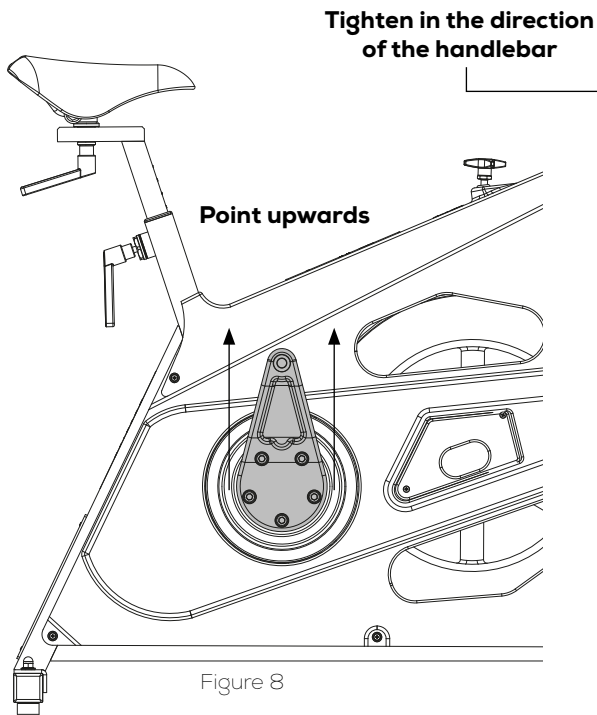

Figure 8
1) Place the right pedal arm with the socket pointing upwards, see figure 8.